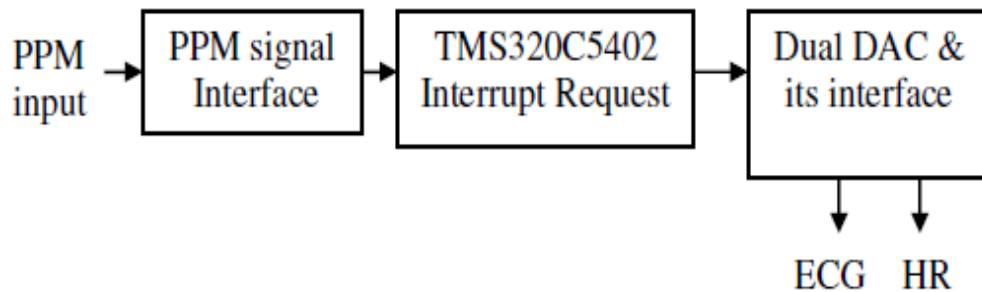

Fig. 8.11: DSP based biotelemetry Receiver Implementation
- A DSP based PPM signal decoding is shown in fig. 8.11. PPM signal interface generates the interrupt for DSP.